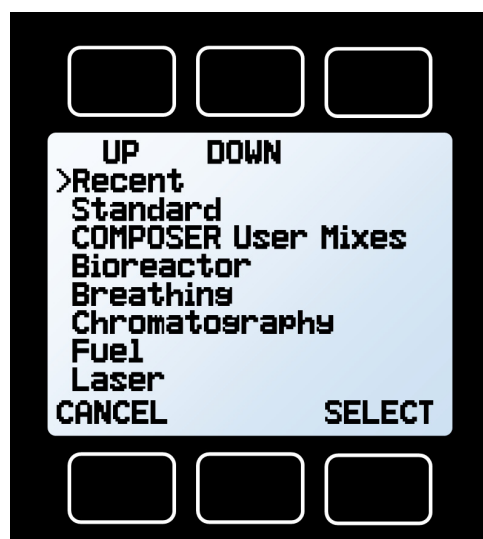
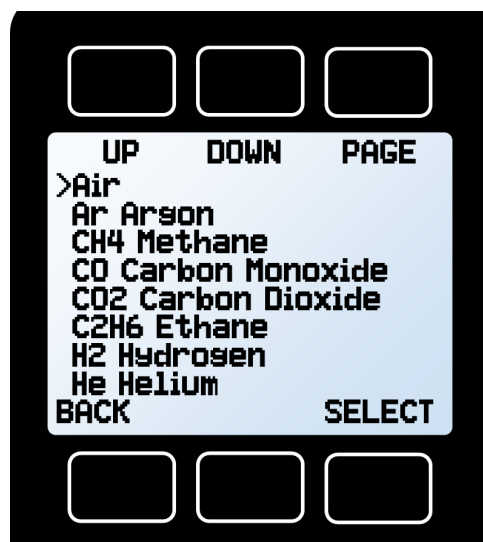

Figure 19 Category listing menu.
Figure 20 Gas listing menu.
- **UP/DOWN** moves the selection arrow up or down the listing of gas categories (**Figure 19**) or gases (**Figure 20**).
- **SELECT** (in **Figure 19**) opens a list of gases in that category.
- **SET** (in **Figure 20**) immediately loads the gas measurement properties and exits to the Main Display (**page 31**).